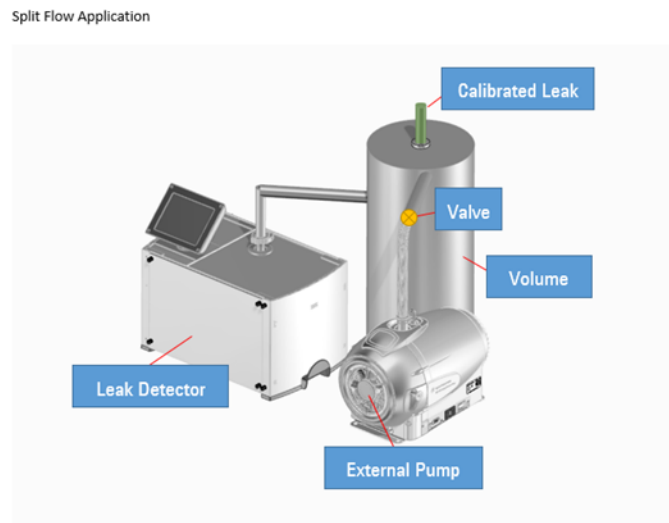

Figure 5-12 Split Flow Application
1. Connect the leak detector and secondary rough pump to the test chamber as seen in Figure 5-12.